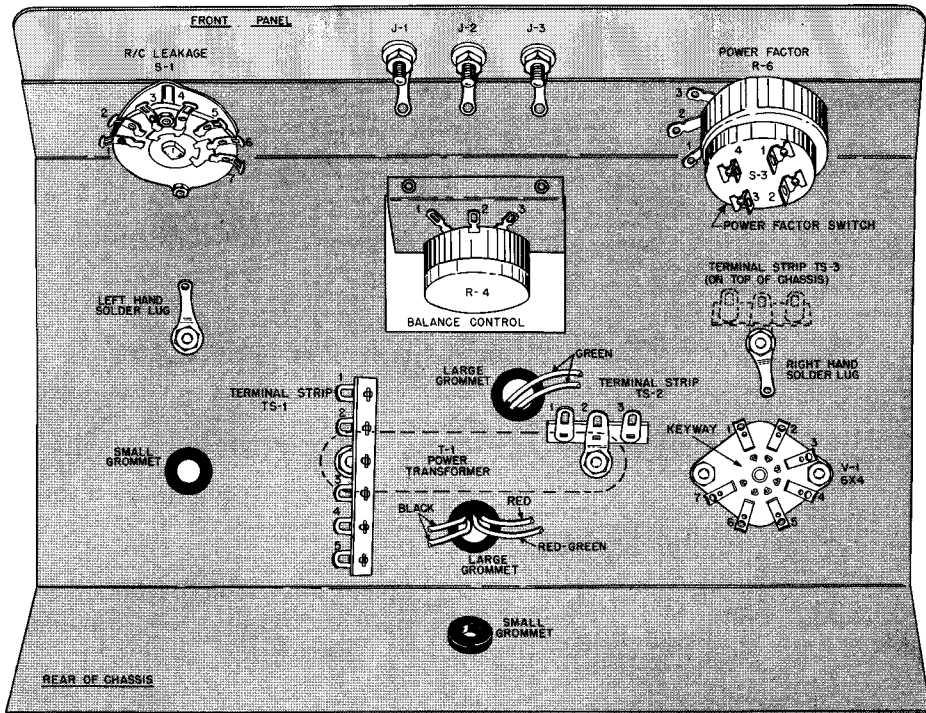
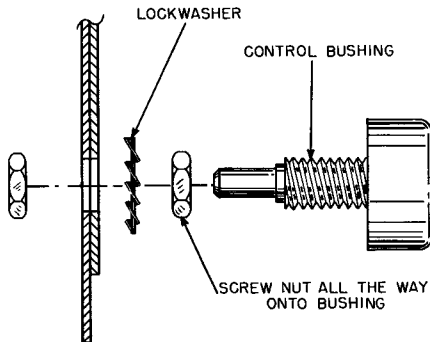
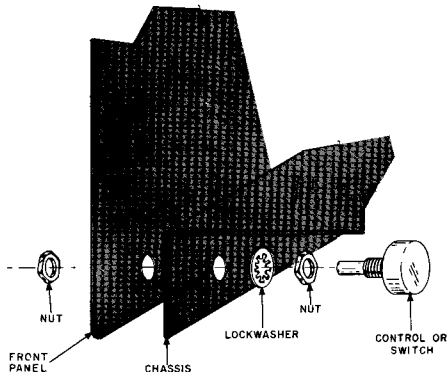

FIGURE 1. MOUNTING THE PARTS ON THE CHASSIS
FIGURE 2. HOW TO MOUNT A CONTROL
FIGURE 3. HOW TO MOUNT THE FRONT PANEL WITH A CONTROL
REFER TO FIGURE 1.
- (X) Mount the 7-pin wafer socket inside the chassis over the hole near the right rear edge of the chassis with two machine screws and nuts. The keyway (the wide open space between two of the socket pins) must be toward the left and front of the chassis.
- (X) In front of the 7-pin socket, mount the other three-terminal strip (TS-3) on the outside of the chassis, shown in broken lines in Figure 1, and a solder lug on the inside of the chassis, with a machine screw and nut. This solder lug will be referred to as the Right Hand Solder Lug.
- (X) Mount R-4, the 10K ohm potentiometer without a switch, on the bracket that is welded to the top of the chassis so its terminals point toward the rectangular hole in the chassis. Figure 2 shows how to mount a control using two nuts and a lockwasher
- (X) Mount the front panel to the chassis with R-6, the 800 ohm potentiometer with a switch. See Figure 3. The potentiometer terminals must be toward the center of the chassis, as shown in Figure 1.
- (X) Mount S-1, the single-wafer switch, in the left hand hole in the front of the chassis. Position the switch as shown in Figure 1. See Figure 3.
- (X) Mount the double-wafer switch (S-2) in the small hole near the top of the front panel. See Figure 2. The open space on the rear wafer must be toward R-4, as shown in Figure 1.